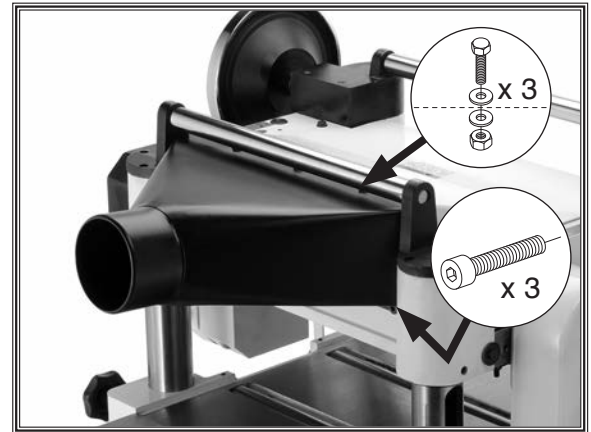

Figure 4. Dust hood installed.
1. Secure the top of the dust hood with (3) M6-1 x 10 hex bolts, (6) 6mm flat washers, and (3) M6-1 hex nuts (see **Figure 4**).
2. Secure bottom of dust hood with (3) M8-1.25 x 20 cap screws (see **Figure 4**).